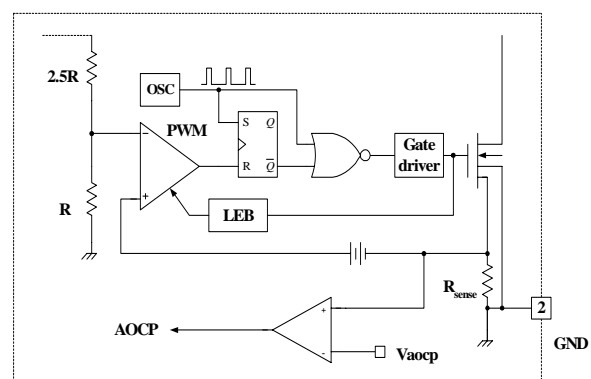

Figure 14. AOCP block
**4.2 Abnormal Over Current Protection (AOCP) :** When the secondary rectifier diodes or the transformer pins are shorted, a steep current with extremely high di/dt can flow through the SenseFET during the LEB time. Even though the FSCQ1265RT has OLP (Over Load Protection), it is not enough to protect the FSCQ1265RT in that abnormal case, since severe current stress will be imposed on the SenseFET until OLP triggers. The FSCQ1265RT has an internal AOCP (Abnormal Over Current Protection) circuit as shown in Figure 14. When the gate turn-on signal is applied to the power Sense FET, the AOCP block is enabled and monitors the current through the sensing resistor. The voltage across the resistor is then compared with a preset AOCP level. If the sensing resistor voltage is greater than the AOCP level, the set signal is applied to the latch, resulting in the shutdown of SMPS. This protection is implemented in latch mode.